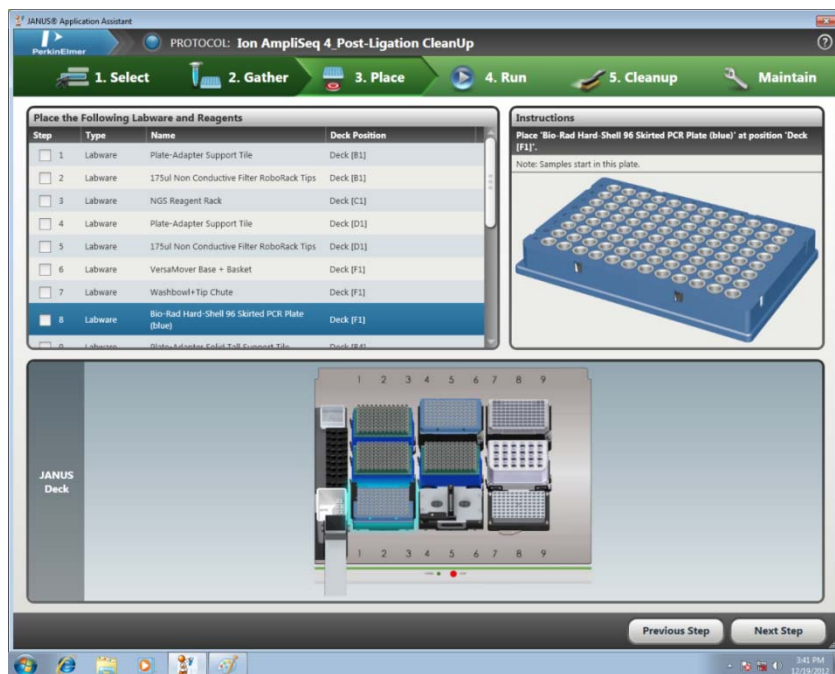

Figure 32. Place page of NGS Express software showing the location of the sample plate on the deck for Ion AmpliSeq Post-Ligation Cleanup protocol.
- b. Follow the instructions in the Place tab of the software for placing support tiles, tips, and plates on the deck. Note that your sample plate must be in the basket in the front left position on the deck, as shown in Figure 32.